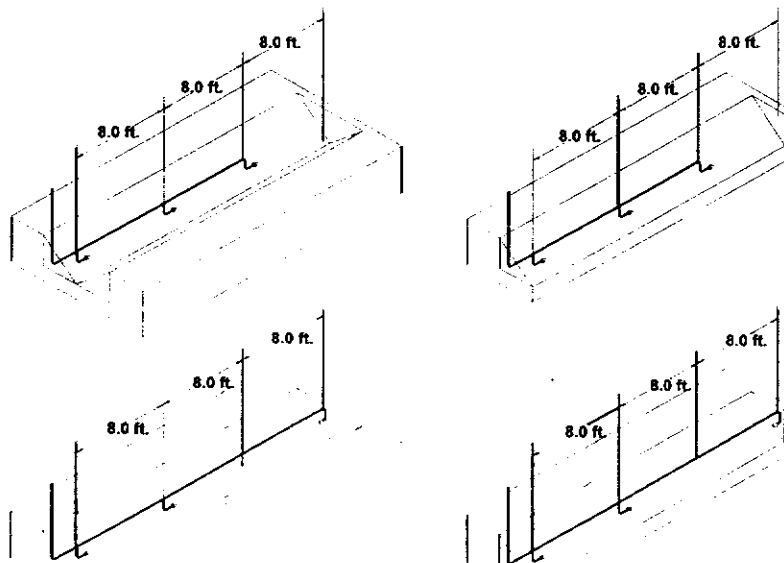

Figure 3.3 Plenum Coverage Limitations, Model NL-A Nozzle.
The Model NL-A nozzle is a one (1) flow point nozzle that has been developed to protect the plenum section of the exhaust hood. Only one (1) Model NL-A nozzle can be used on a single plenum branch. A single Model NL-A can protect a plenum (with single or V-Bank filters) with rectangular dimensions of 8' x 4' or less. Larger plenums can be protected by dividing the hazard area so that each nozzle protects an area of 8' x 4' or less (see Figure 3-3).